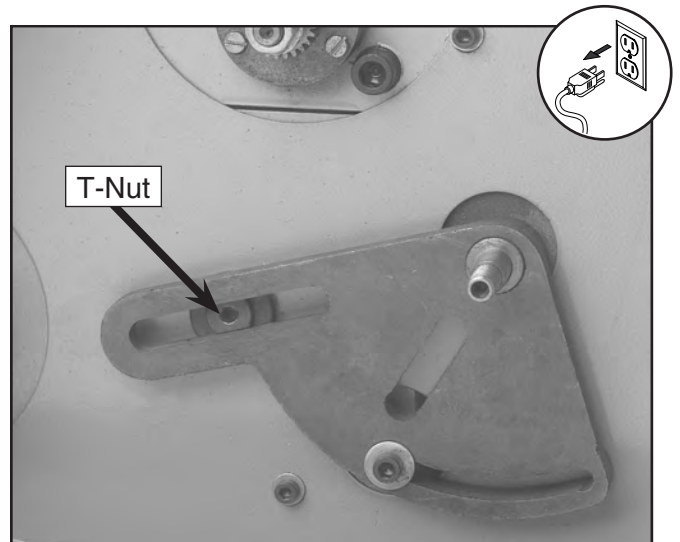

Figure 43. The T-nut remains in the gear support bracket.
4. Remove the cap screw in the middle of the combination gear B/C. This will allow removal of the gears and bushing supporting them. A T-nut will remain in the gear support bracket as in **Figure 43**.